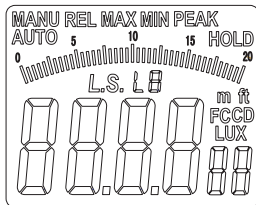

Figure 5-1-5
- Hold the "MAX/MIN/LS" button for one second and the LS value will flash on the LCD display (as shown in figure 5-1-5). The meter is now in source selection mode. Press "REL/PEAK" or "HOLD/ZERO" to change the light source (L0-L9), long press to accelerate change. Press "RAN" again to switch back to the previous step.